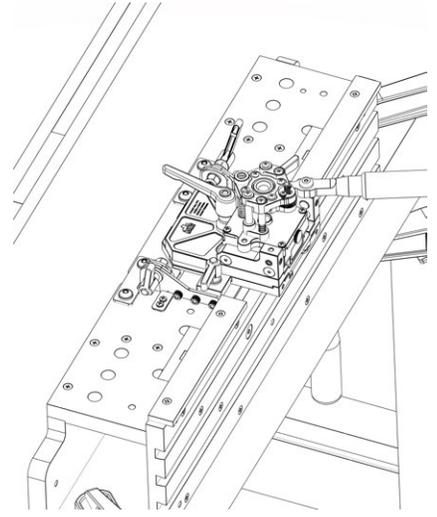

FIG. 10
2. Once the Pocket Mill Pro is on the Universal Mounting Plate, lock the adjustable handles. See Figure 10.